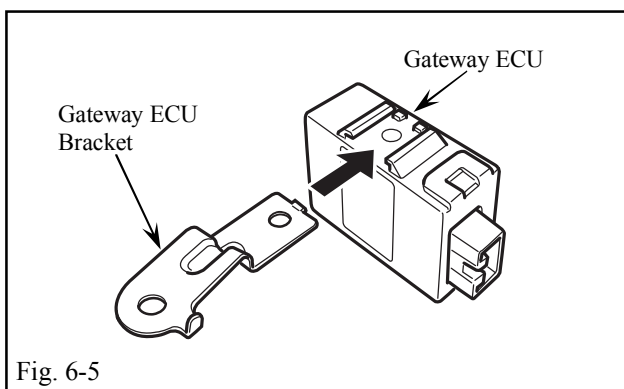

Fig. 6-5
- (h) Install the Gateway ECU Bracket into indicated bracket slot on the Gateway ECU. (Fig. 6-5)
- (1) Ensure the bracket is firmly attached to the ECU.